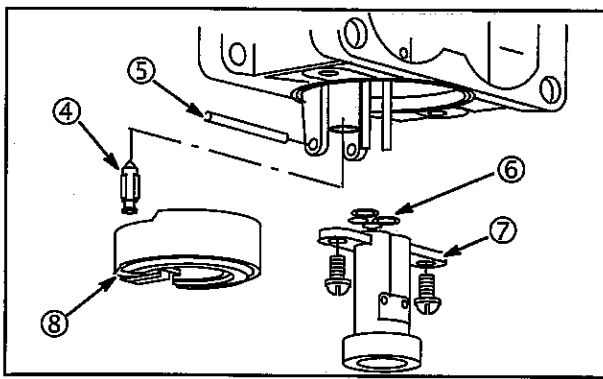

Fig. 118
5. Remove float hinge pin (5), float (8) and inlet needle (4), **Fig. 118**.
6. Remove emulsion tube body (7) and gasket (6). Discard gasket.